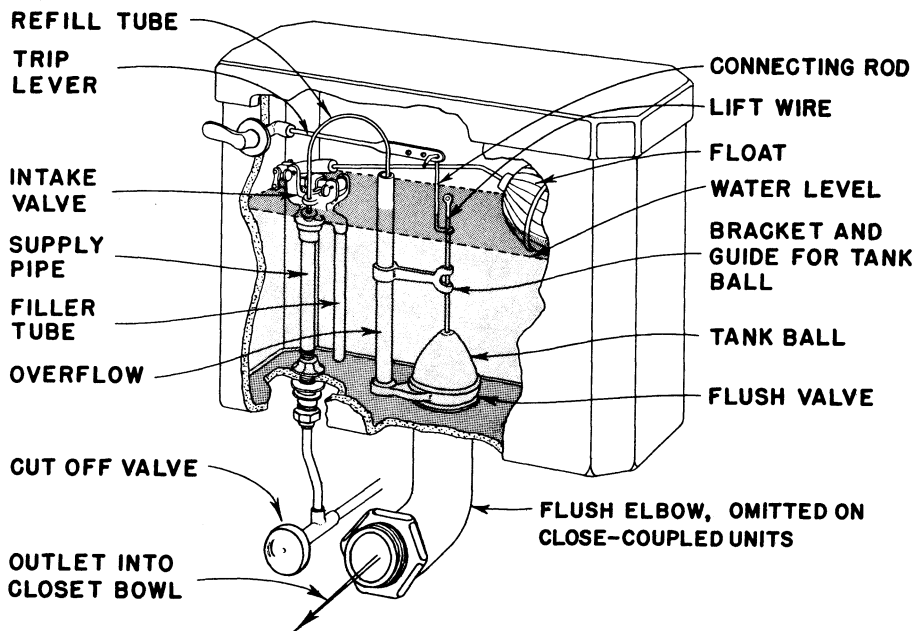

Figure 7.—Water closet (toilet) flush tank.
Figure 7 shows a common type of flushing mechanism. Parts that usually require repair are the
Most plumbing codes require a cutoff valve in the supply line to the flush tank, which makes it unnecessary to close down the whole system (fig. 7). If this valve was not installed, you can stop the flow of water by propping up the float with a piece of wood. Be careful not to bend the float rod out of alignment.
- Disconnect the water pipes to the tank (see fig. 7).